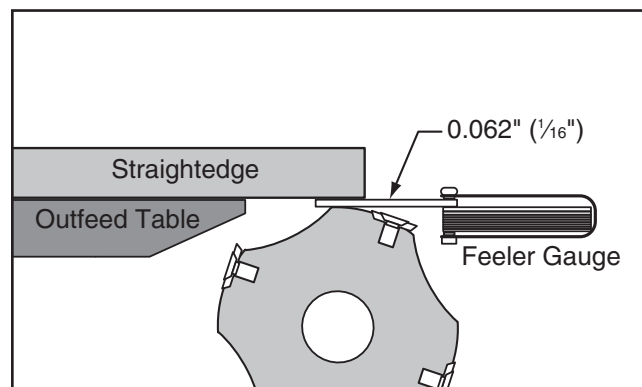

Figure 59. Using feeler gauge to check outfeed table cutterhead height.
4. Try to fit feeler gauge or combination of feeler gauges 0.062" to 0.069" between bottom of ruler and cutterhead body, as shown in **Figure 59**.